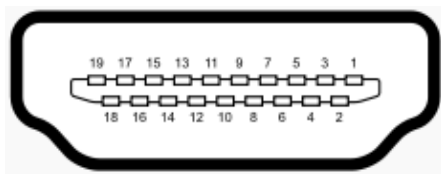

Figure 3-29: HDMI Connector Pinout Locations
- CN Pinouts:** See **Table 3-26** and **Figure 3-29**